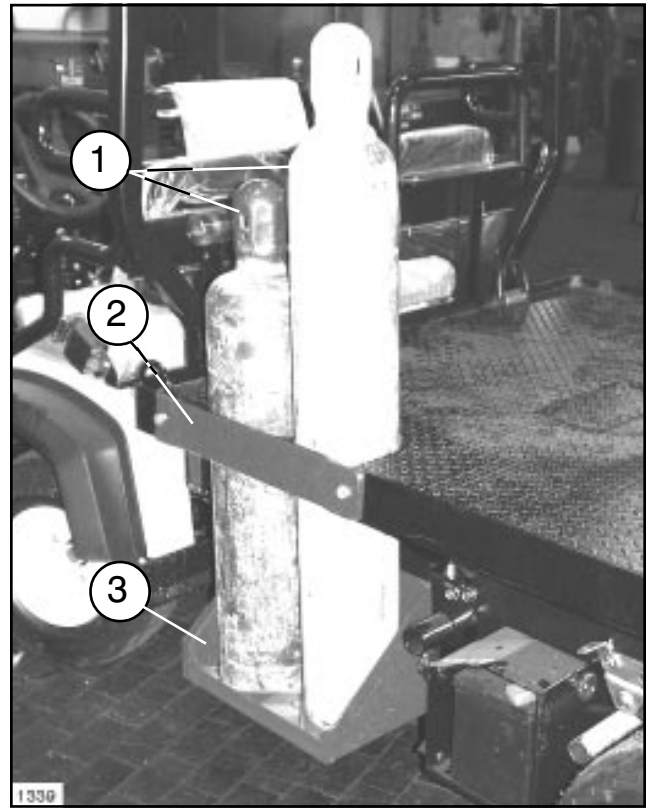

FIG. 5
C. Place Oxygen and Acetylene Bottles onto the Bottle Tray as shown in Figure 5. Tray is designed for a 38" High Acetylene Tank with a diameter of 8 1/2" and a 48" high Oxygen Tank with a diameter of 7 1/2".